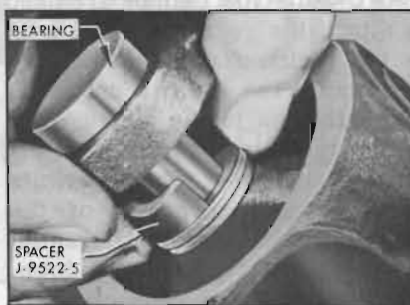

Figure 40-44—Installing Spacer
4. Release the pump and install Spacer J-9522-5 over the spider journal at the space provided with bearing forced partially through the yoke. See Figure 40-44. Reposition the propeller shaft in the